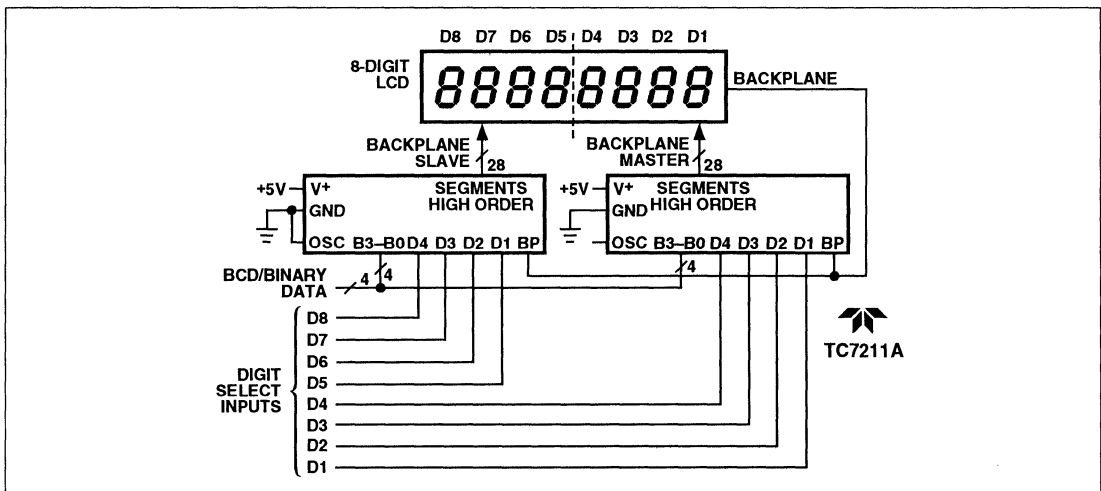

Figure 1. TC7211AM Driving an 8-Digit LCD Display in Master/Slave Configuration
The backplane output driver can be disabled by grounding the OSCILLATOR input (pin 36). The 28 output segment drivers can therefore be synchronized directly to an input signal at the backplane (BP) terminal (pin 5). Several slave devices may be cascaded to the backplane output of a master device. The backplane signal may also be derived from an external source. These features permit interfacing to single backplane LCDs with characters in multiples of four. (See Figure 1.)